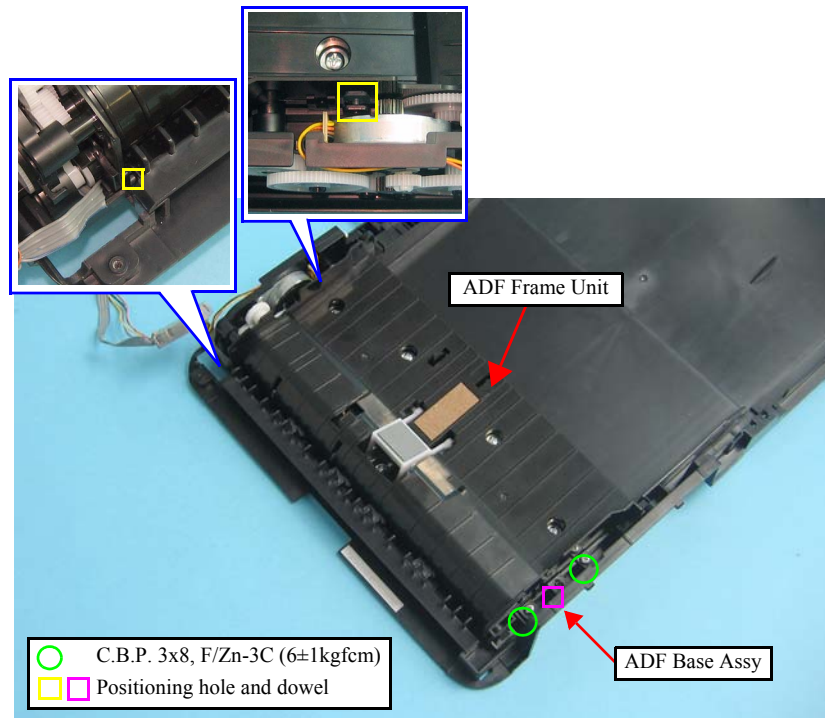

Figure 4-142. Removing the ADF Frame Unit (3)
- When installing the ADF Frame Unit, align the positioning holes (x3) of the ADF Frame Unit and ADF Base Assy with the dowels (x3) for them as shown in Figure. 4-142.